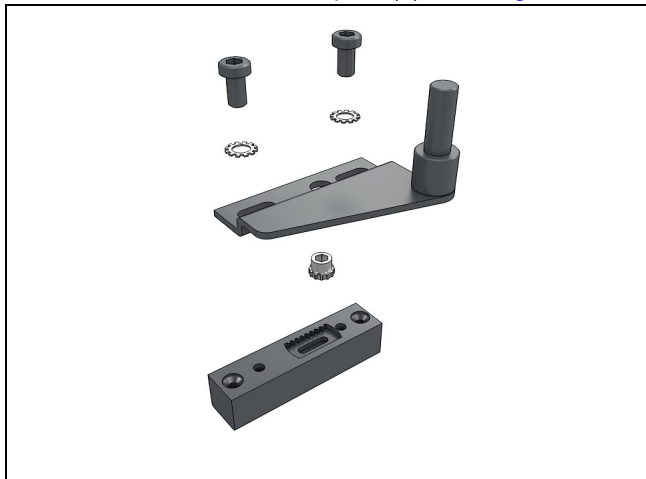

Figure 28
4. Disassemble the bottom pivot(s). See Figure 28.